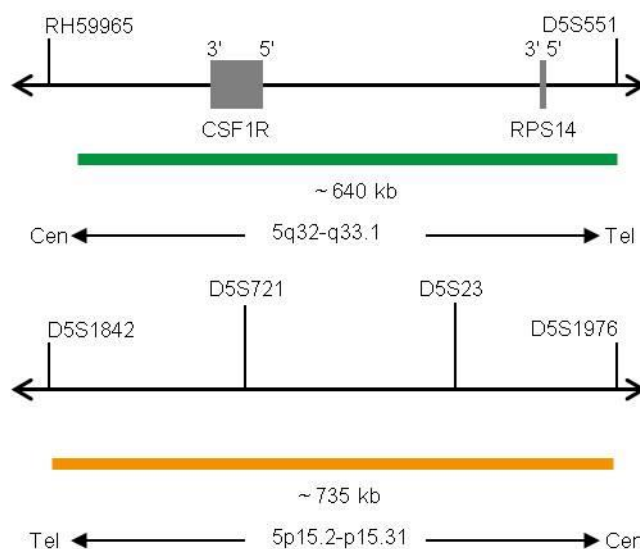

Fig. 1: Top: SPEC CSF1R Probe map (not to scale); Bottom: SPEC D5S23,D5S721 Probe map (not to scale)
- ZyGreen (excitation 503 nm/emission 528 nm) labeled polynucleotides (~10 ng/μl), which target sequences mapping in 5q32-q33.1* (chr5:149,274,320-149,913,159) harboring the CSF1R gene region (see Fig. 1).
- ZyOrange (excitation 547 nm/emission 572 nm) labeled polynucleotides (~4.5 ng/μl), which target sequences mapping in 5p15.2-p15.31* (chr5:9,233,775-9,967,465) harboring the D5S23,D5S721 locus (see Fig. 1).